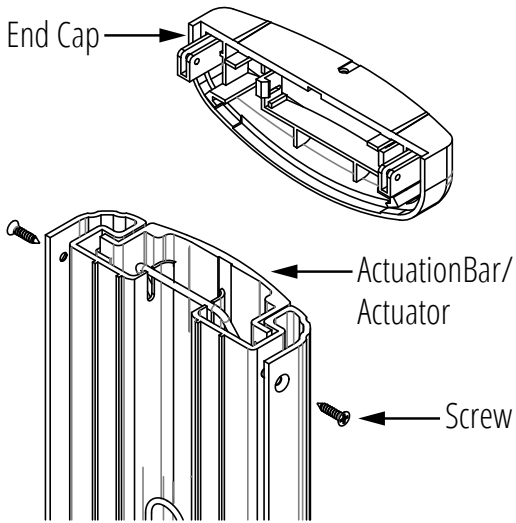

Figure 4.1 End Cap Removal
2. Carefully pull out the Actuation Bar and place it aside to prevent any surface damage.(See Figure 4.1)